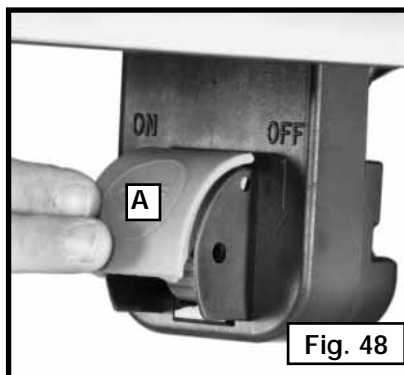

Fig. 48
2. To turn the saw “OFF”, push down on switch shield (A) Fig. 48.